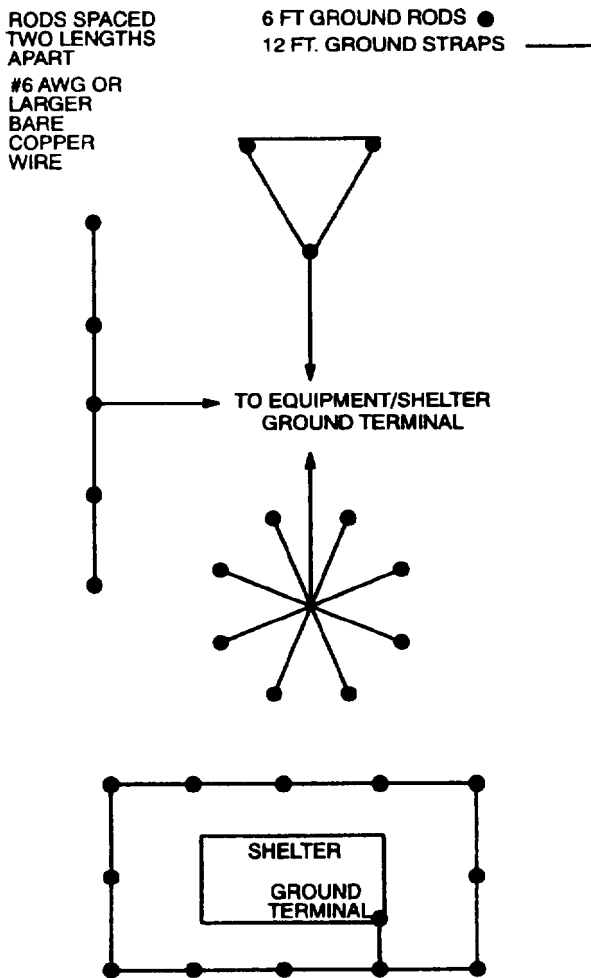

Figure G-11.
*e. Arctic.* Try to connect to a buried metal object such as an underground pipe or a building frame. Otherwise, drive in several ground rods as deeply as possible. Space them at least two rod lengths apart and connect them with #6 AWG or larger bare copper cable or braid. Connect the ground lug on the power entry panel of the shelter to the closest ground rod. Treat the soil with salt and water as described in paragraph G-5. Figure G-11 shows several ground rod layouts.
When a single ground rod provides a poor ground, drive in extra rods as shown in figure G-11. If you can, use 8 or more rods. The more rods you use, the better the electrical connection to the earth. Install rods around the perimeter of your shelter or equipment spaced 2 rod lengths apart. Connect all rods together and connect the closest rod to the shelter's power entry panel ground connector using the heaviest wire you can find, preferably #6 AWG or larger bare copper cable. If possible, connect other perimeter rods to other points on the shelter. Treat the soil around each ground rod with salt and water as explained in paragraph G-5.